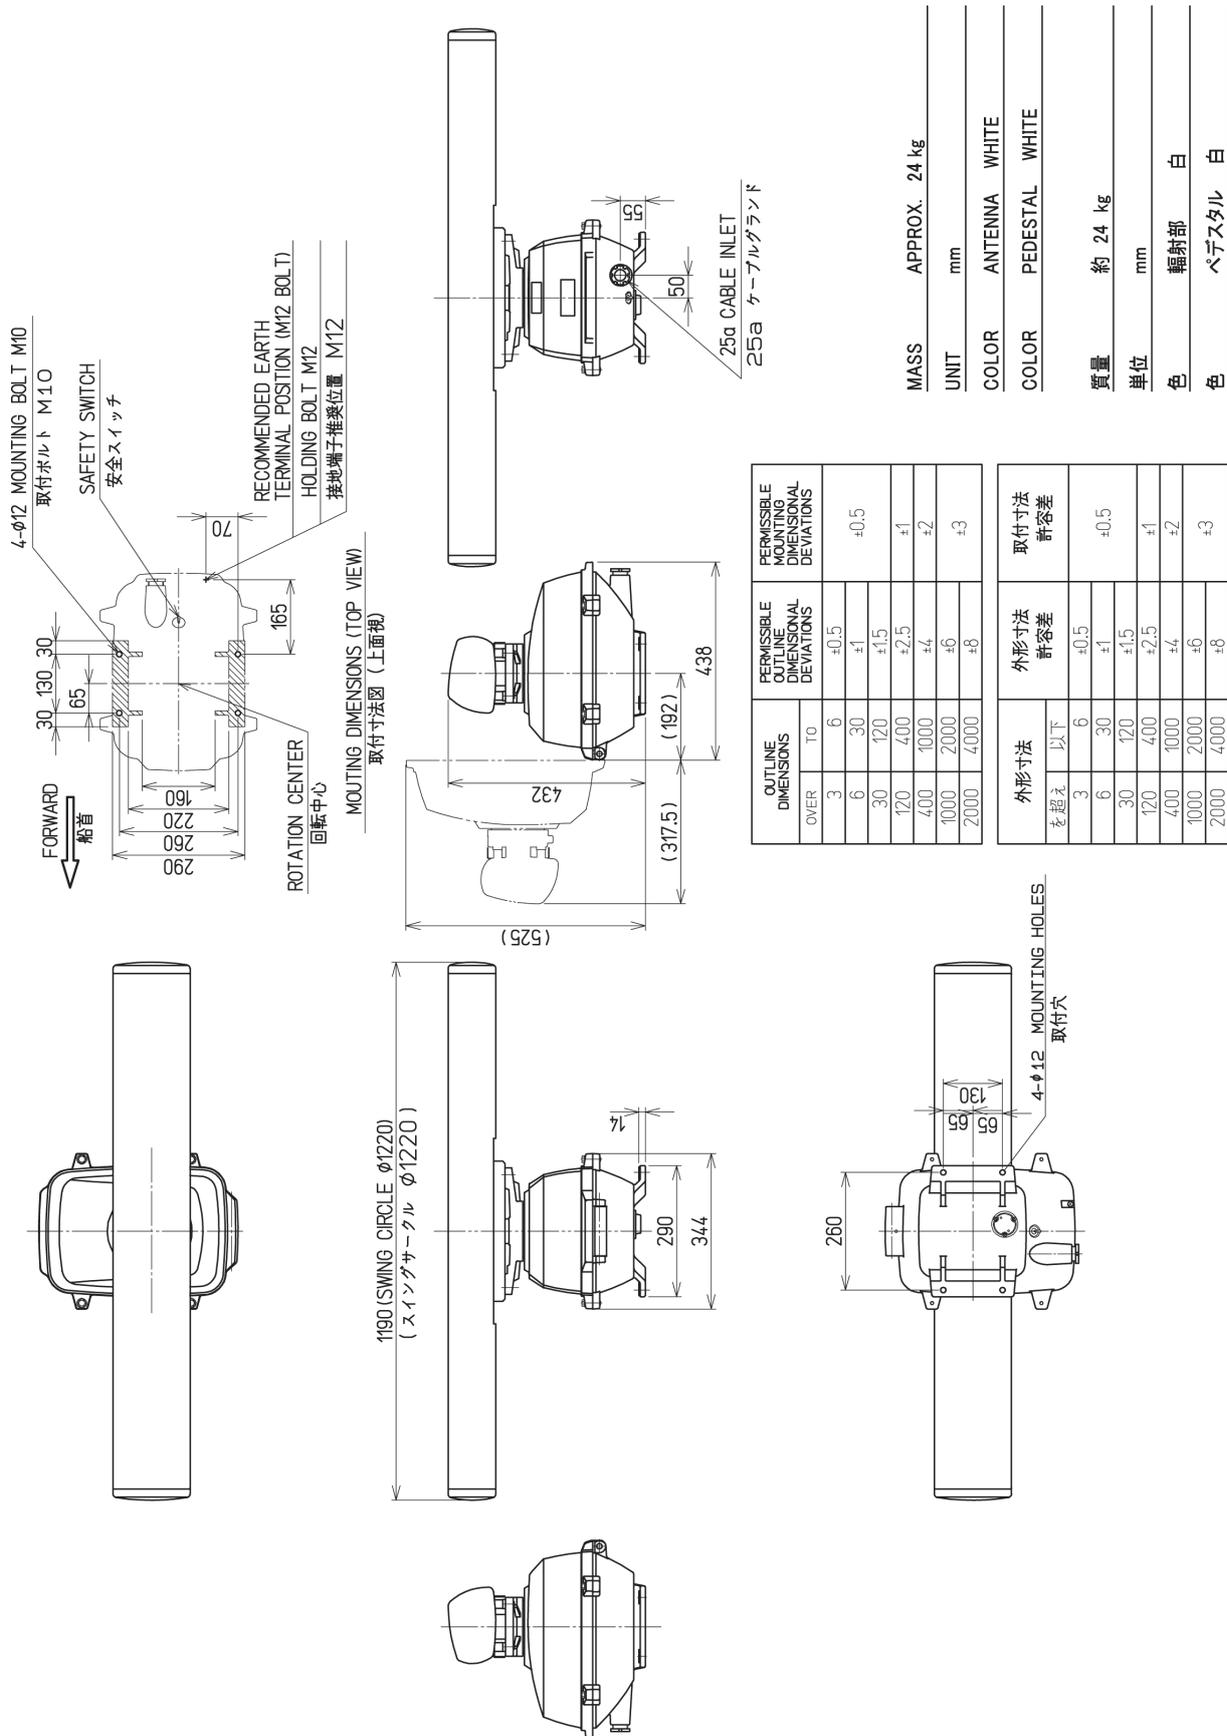

Fig. 1.2 Exterior Drawing of Scanner Unit, Type NKE-2062/HS
- Fig. 1.2 Exterior Drawing of Scanner Unit, Type NKE-2062/HS